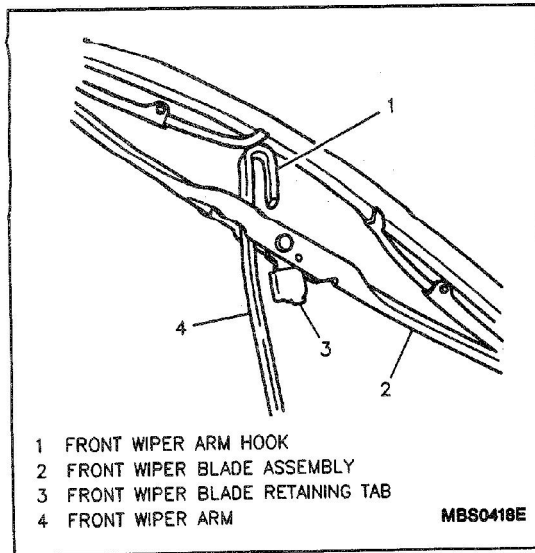

Figure 2—Removing Wiper Blade Assembly
- Depress the front wiper blade retaining tab, slide blade assembly down wiper arm until the blade clears the wiper arm hook and then remove the blade from the arm (Figure 2).